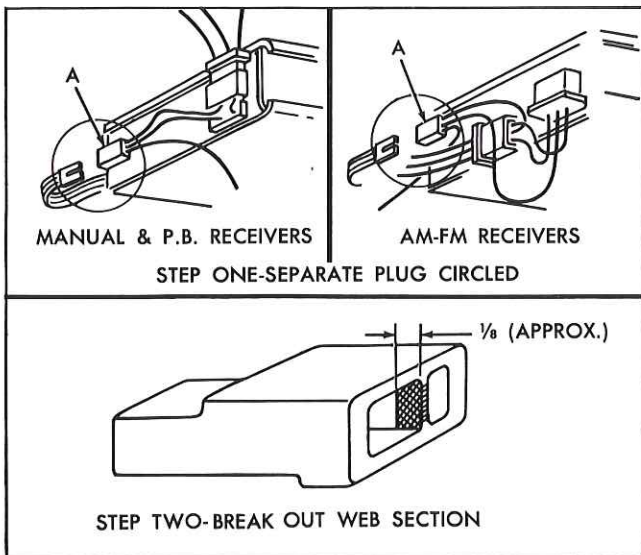

Fig. 2—Harness Connector Rework
On early production 1965 Chevrolet and Chevelle vehicles equipped with rear speaker, incomplete electrical contact at the harness connector, located on the radio receiver (fig. 2), causes speaker malfunction from occasional static to inoperation. A revised harness entered production approximately September 28, 1964.
1. Separate the small plug assembly (shown circled in figure 2 top view).
as shown in figure 2—lower view. Use care to not damage the electrical contactors during this operation.